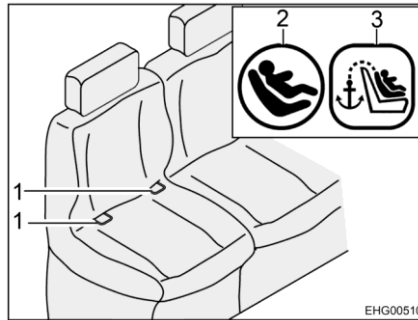
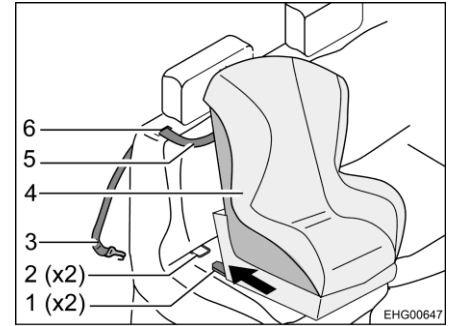

Fig. 10 Seat with ISOFIX
Fig. 11 Fastening with top tether
- Guide the top tether strap (Fig. 11,5) through the slot (Fig. 11,6) in the cushion of the backrest (next to the headrest).
- Hook the fixing hook (Fig. 11,3) onto the attachment point on the back of the vehicle seat.
- Have the connectors (Fig. 11,1) snap into the retaining clips (Fig. 10,1 and Fig. 11,2). While doing this, a distinctive click must be heard.
- With a strong jerk, check if the child seat (Fig. 11,4) is firmly connected.